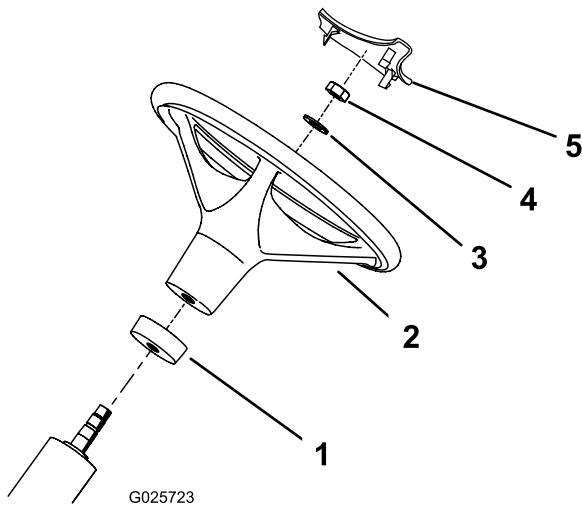

Figure 2
2. Slide the foam collar, small end first, onto the steering shaft (Figure 2).
3. Slide the steering wheel onto the steering shaft (Figure 2).
4. Secure the steering wheel to the steering shaft with a washer and locknut (Figure 2). Torque the locknut to 20–26 ft-lbs (27–35 N·m).
5. Install the steering wheel cover to the steering wheel (Figure 2).